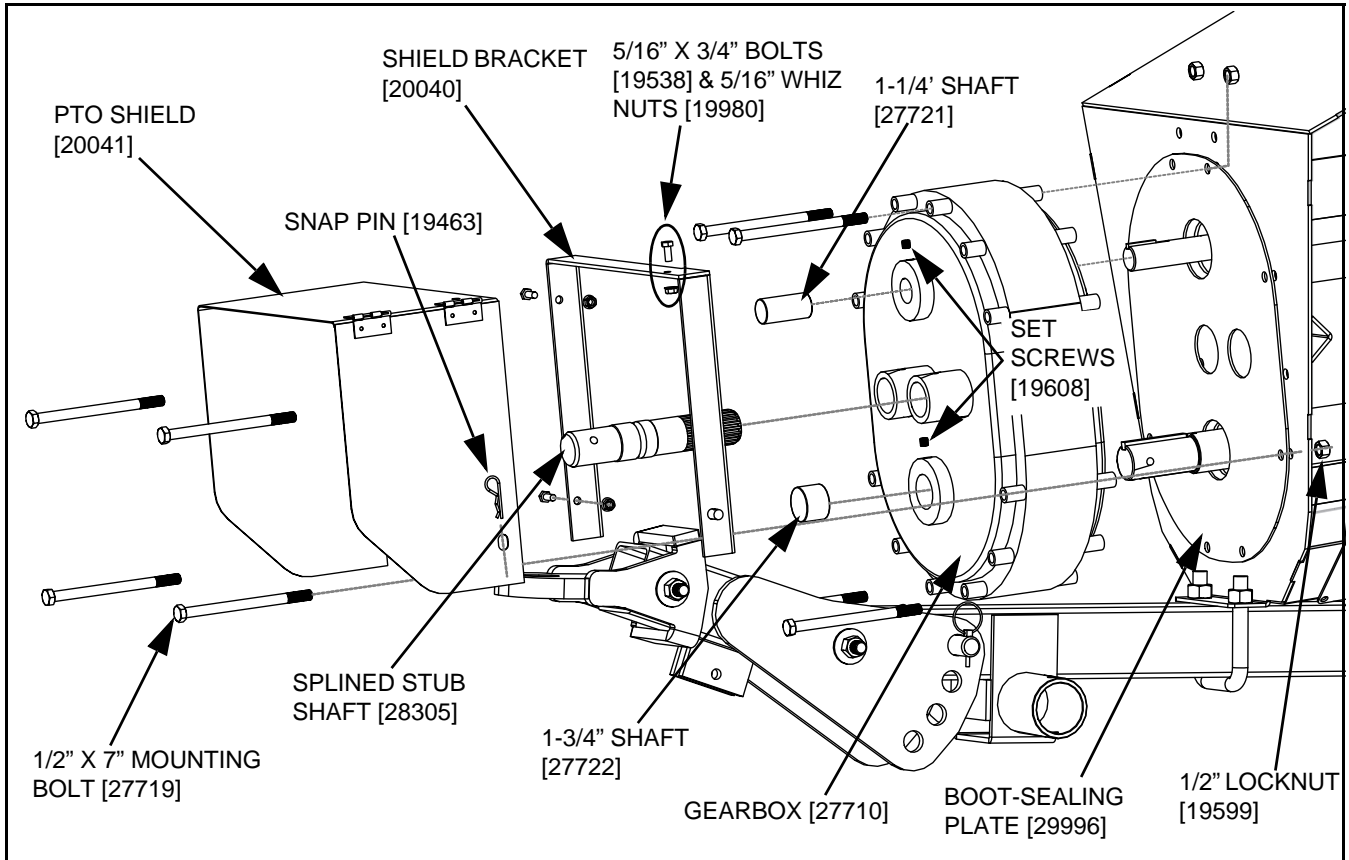

Figure 2 1000 RPM PTO Drive (Speed Reducer Gearbox) Installation
1. Slide boot-sealing plate over the shafts and leave hanging loosely against the boot face (see Figure 2).